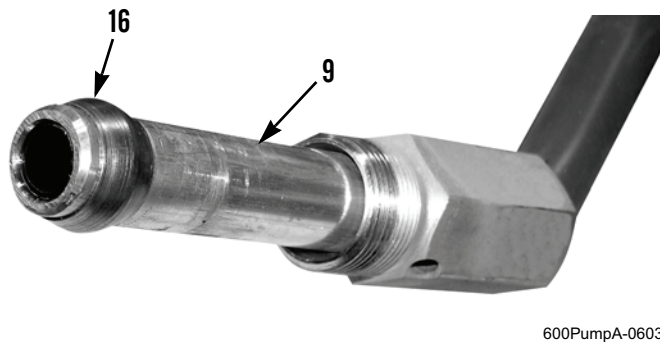

Figure 5. Compression Sleeve.
6. Inspect compression sleeve (Figure 5, Item 16) on each oil cooler tube (Figure 5, Item 9). If damaged, remove compression sleeve and discard.
1. If removed, install new compression sleeve (Figure 5, Item 16) on each oil cooler tube (Figure 5, Item 9). Lightly coat each compression sleeve with clean oil.